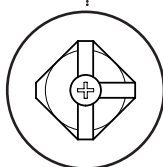

Fig. 27
3. Turn the gas service cock  $\frac{1}{4}$  turn from the off position (Fig. 27). This will supply gas to the boiler only. Purge the air from the gas service pipe in accordance with BS 6891 and test for gas soundness.